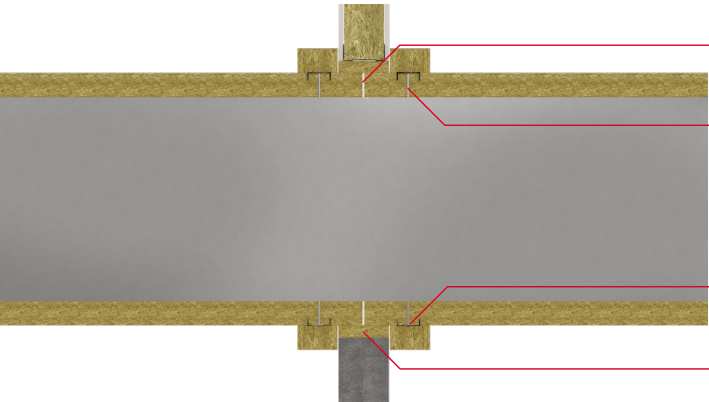

Figure 10
1. A joint in the DuctRock Slab must be accommodated at the centre point of the aperture, as shown in Figure 10.
4. Before applying the u-profile to the DuctRock Slab slits must be cut into the insulation to allow the profile sides to penetrate the insulation (Figure 10). The u-profile can be attached to the ductwork using 100mm self-tapping screws. 4No to the top and bottom slabs and 2No to the vertical slabs.